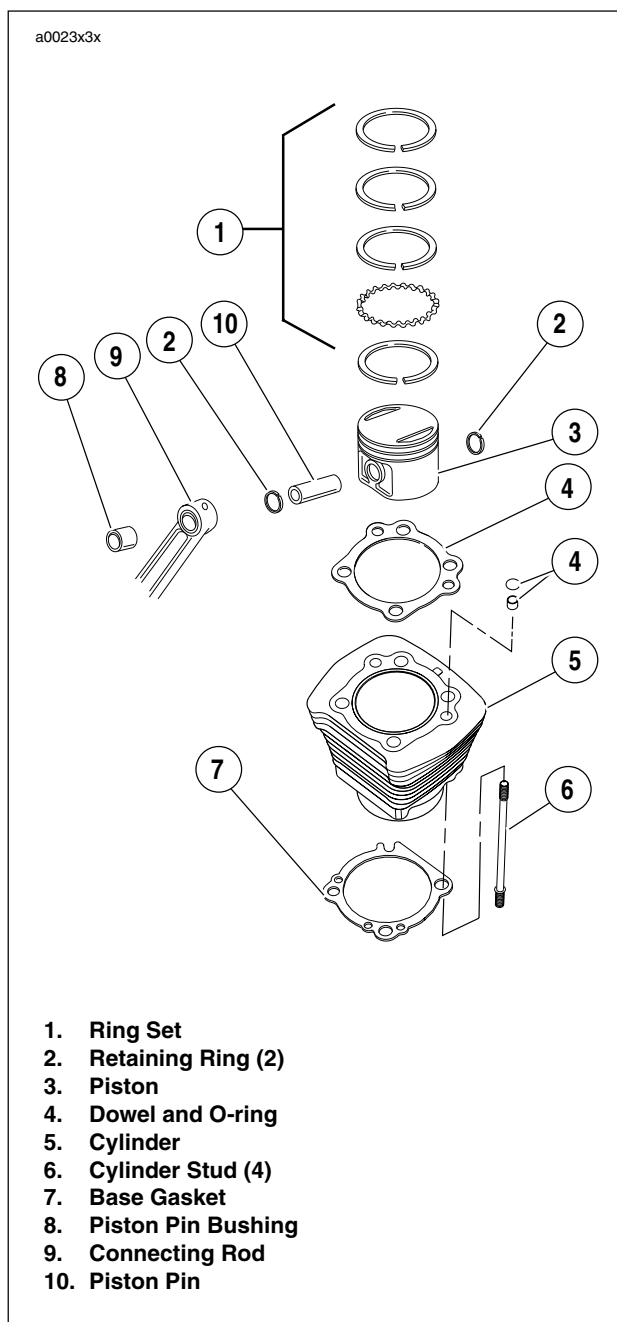

Figure 3-67. Cylinder and Piston
4. See Figure 3-67. Turn engine over until piston of cylinder being removed is at bottom of its stroke.